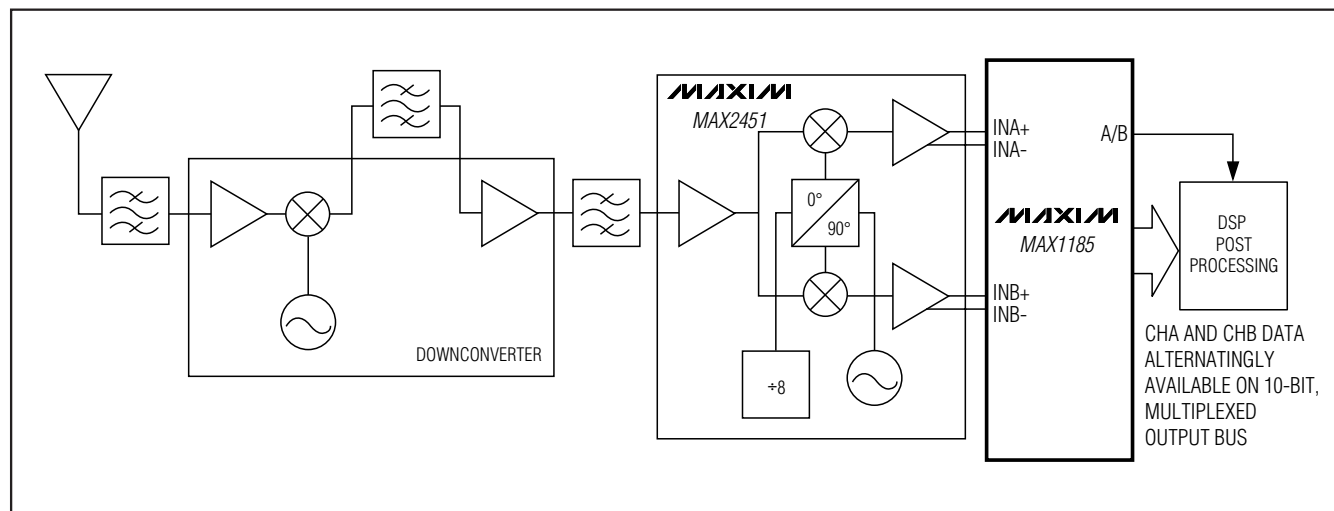

Figure 8. Typical QAM Application, Using the MAX1185
The most frequently used modulation technique for digital communications applications is probably the Quadrature Amplitude Modulation (QAM). Typically found in spread-spectrum based systems, a QAM signal represents a carrier frequency modulated in both amplitude and phase. At the transmitter, modulating the baseband signal with quadrature outputs, a local oscillator followed by subsequent up-conversion can generate the QAM signal. The result is an in-phase (I) and a quadrature (Q) carrier component, where the Q component is 90 degree phase-shifted with respect to the in-phase component. At the receiver, the QAM signal is divided down into its I and Q components, essentially representing the modulation process reversed. Figure 8 displays the demodulation process performed in the analog domain, using the dual matched 3.3V, 10-bit ADC MAX1185 and the MAX2451 quadrature demodulator to recover and digitize the I and Q baseband signals. Before being digitized by the MAX1185, the mixed down-signal components may be filtered by matched analog filters, such as Nyquist or Pulse-Shaping filters. These remove any unwanted images from the mixing process, thereby enhancing the overall signal-to-noise (SNR) performance and minimizing intersymbol interference.